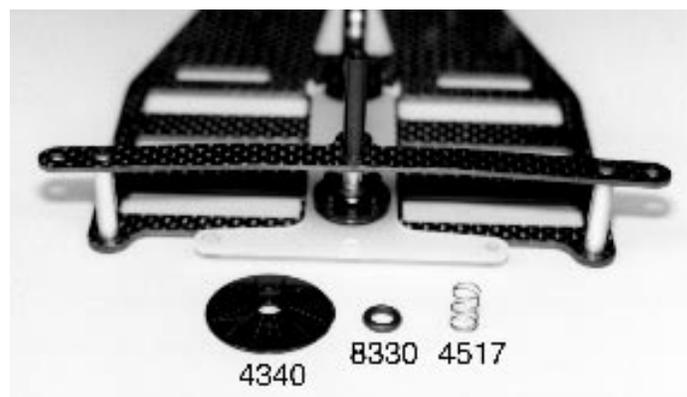

Fig. 32
**Figs. 32 & 33** Now remove one #4517 dampener spring, one #4340 plastic dampener washer, and one #8330 black O-ring. Place the #4517 spring over the #4515 plastic dampener post. Now insert the #8330 O-ring into the center cavity of the #4340 plastic dampener washer. Install the plastic dampener washer over the plastic dampener post O-ring side first. This will leave the flat smooth side facing up. **Racer's Tip:** Team drivers will use some of their diff lube to coat the Black O-rings. This will reduce the friction between the O-ring and the dampener post improving the car performance. Set the rest of bag #3 aside for now. We will come back to it later. **Warning!!:** Make sure the #6917 center screw and the #6915 screw do not touch when both are tightened up. Contact will allow the pivot ball to move excessively reducing the performance of the T-bar and rear end assembly.